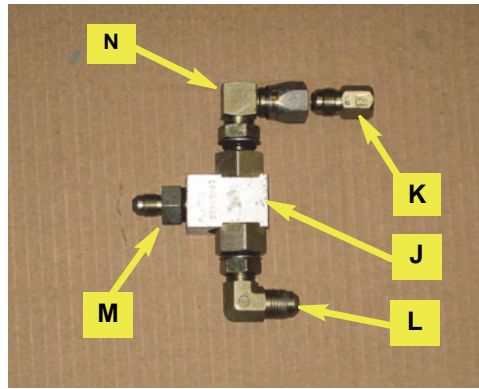

Figure 4a: Load sense shuttle
a. Assemble the load sense shuttle (**J**) with adapter fittings **K**, **L**, **M** and **N** as shown (Figure 4a).